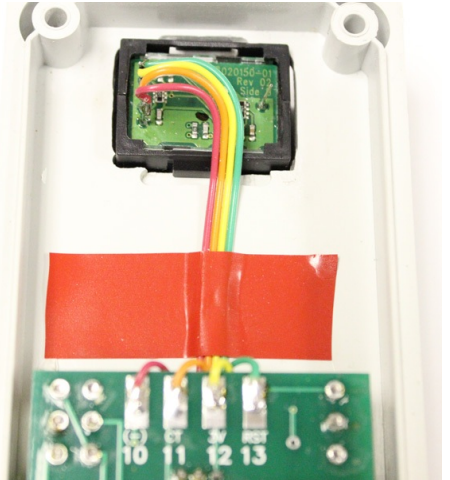

fig 8
10) Tuck the excess ribbon wire between the circuit board and the cover. Place a piece of tape over the ribbon as shown (fig8) to secure it.